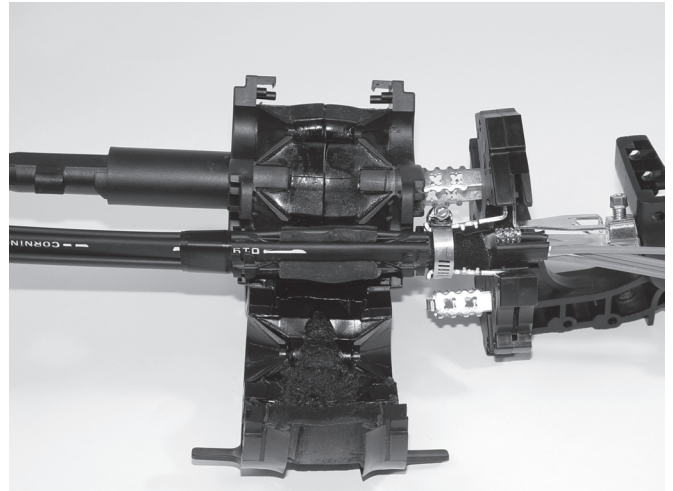

Figure 14
1. Install gel block. Gel of the port splitter should be centered with the gel block. (Figure 14)